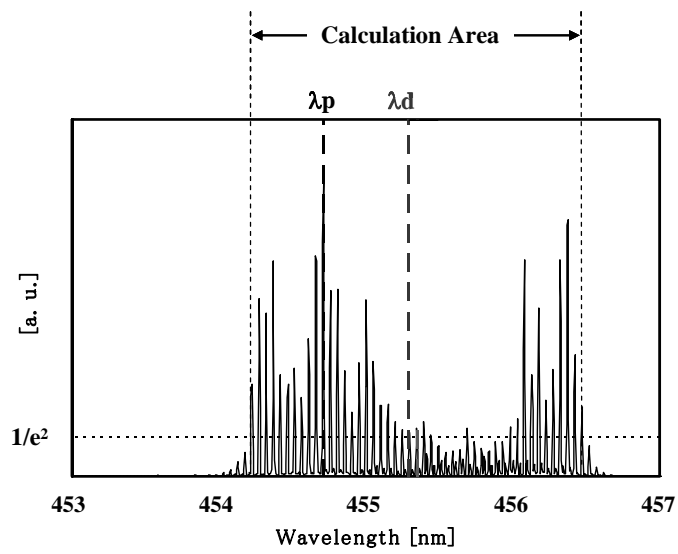

Fig.2 Definition of Dominant Wavelength
*8) λ_d is defined from trichromatic coordinate (x, y) values on chromaticity diagram calculated from the peak intensity higher than $1/e^2$ shown in Fig.2.